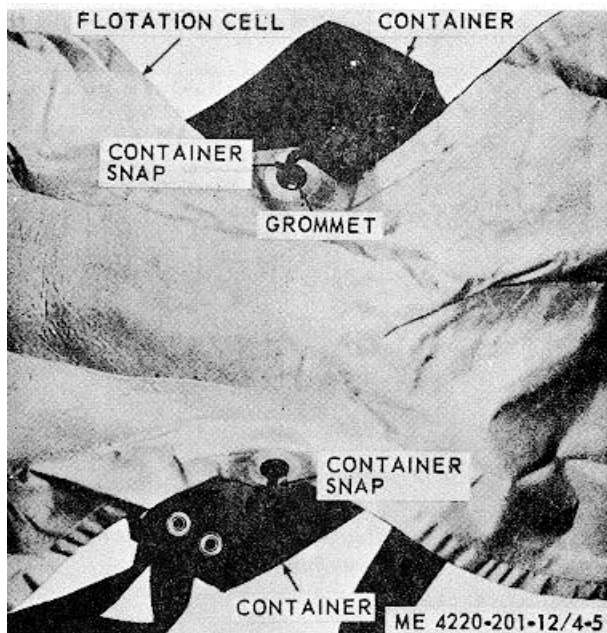

Figure 4-5. Flotation cell attached to container.
*g.* Hook the container snap through the flotation cell grommet (fig. 4-5)